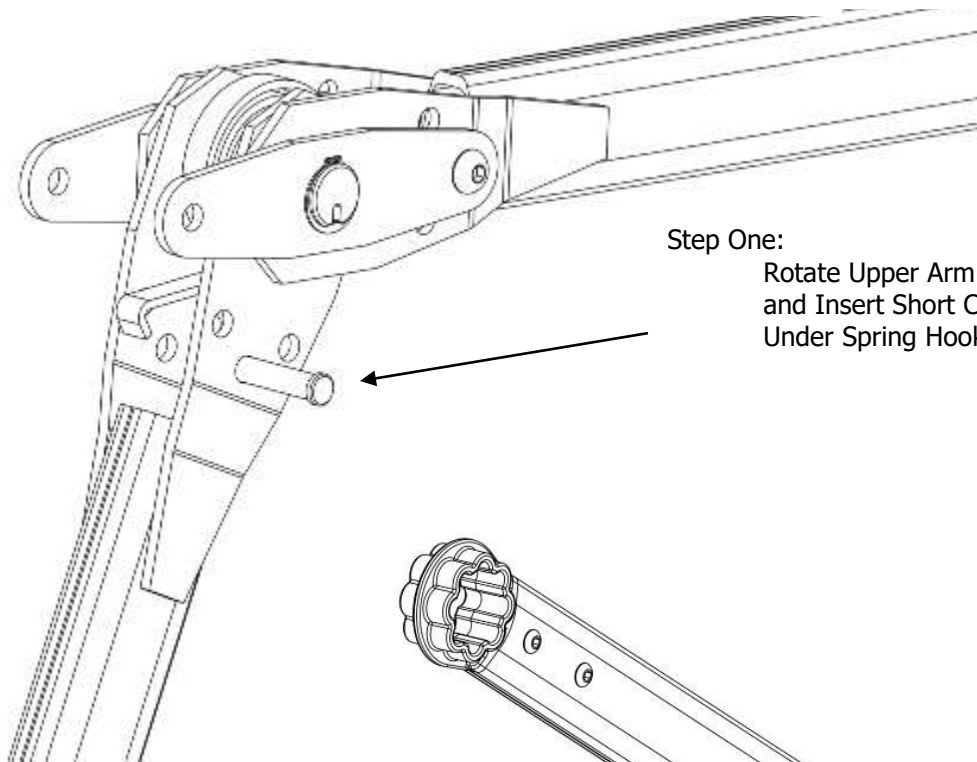

Figure 8
2. Take the short clevis pin out of the upper knuckle section. Rotate the upper section until you can get the pin back thru under the springs. Refer to step 1 in figure 8 or 9 (on facing page) based on system type.
3. Rotate the upper arm against the spring pressure until you can get the long clevis pin thru the holes under the upper pivot tube. Refer to step 2 in figure 8 or 9.